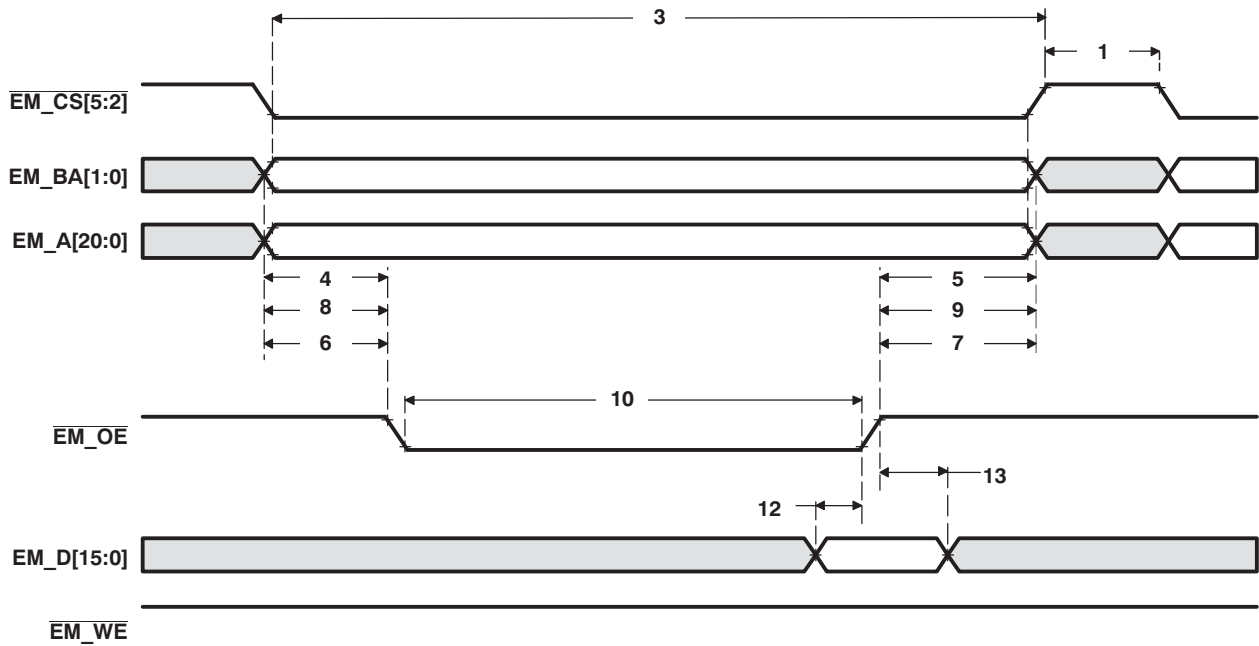
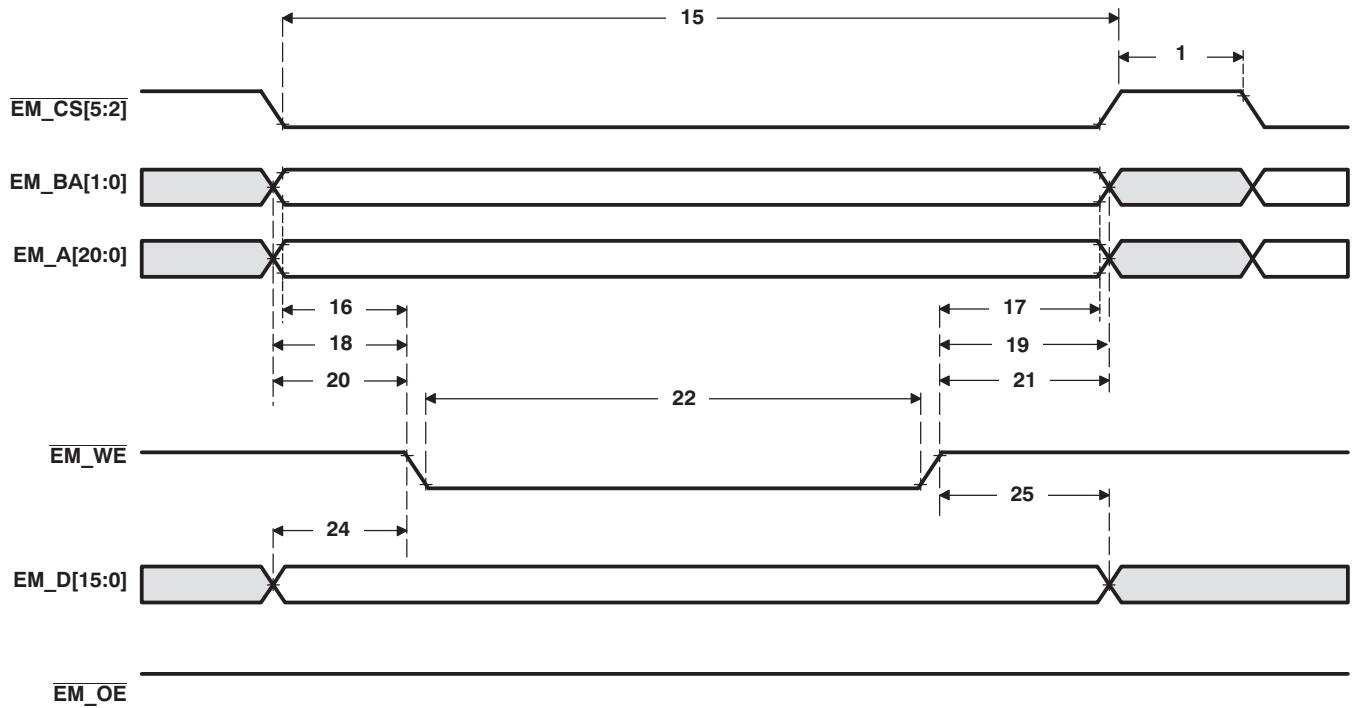
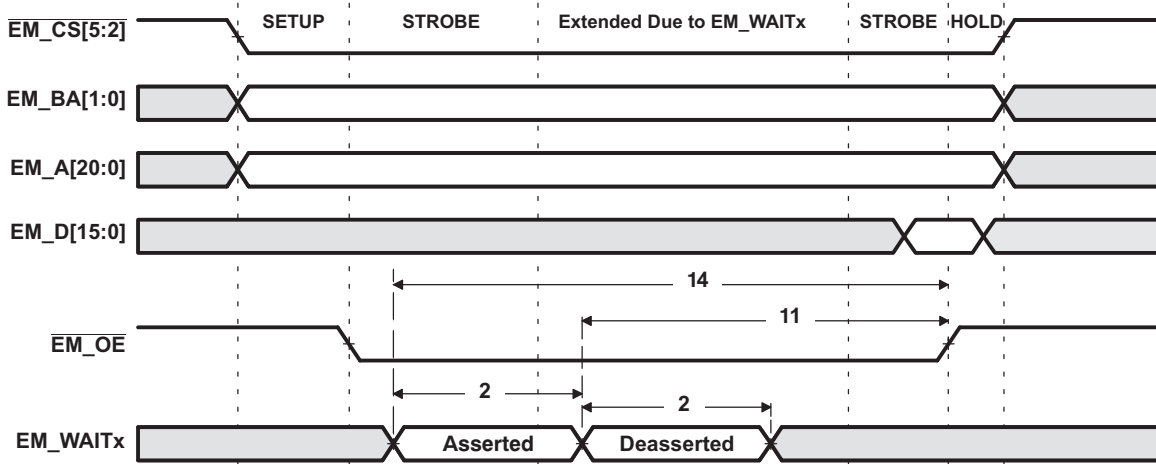
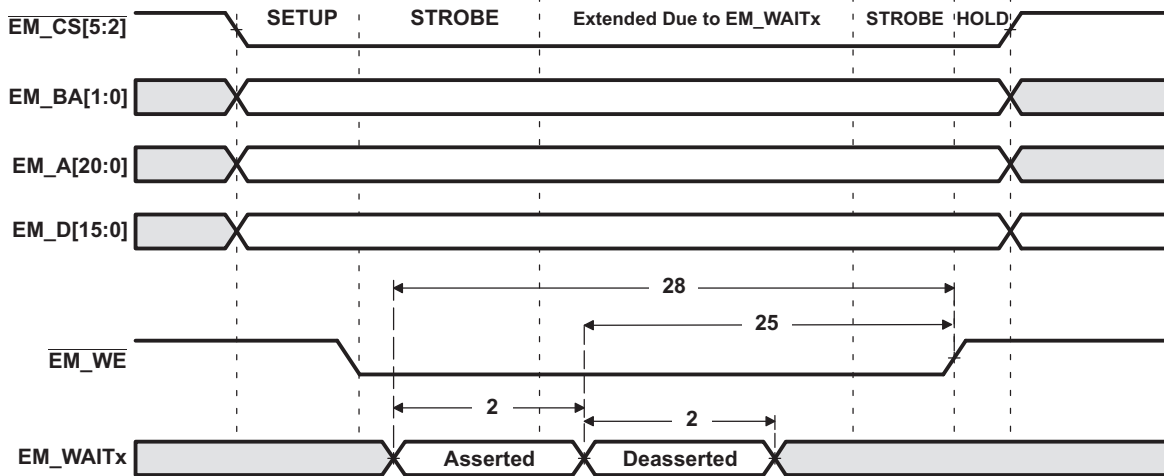

Figure 5-18. Asynchronous Memory Read Timing for EMIF
Figure 5-19. Asynchronous Memory Write Timing for EMIF
Figure 5-20. EM_WAITx Read Timing Requirements
Figure 5-21. EM_WAITx Write Timing Requirements
(1) Timing parameters are obtained with 10pF loading on the EMIF pins.
(2) TA = Turn around, RS = Read setup, RST = Read strobe, RH = Read hold, WS = Write setup, WST = Write strobe, WH = Write hold, MEWC = Maximum external wait cycles. These parameters are programmed via the Asynchronous Configuration and Asynchronous Wait Cycle Configuration Registers.
(3) E = SYSCLK period in ns. For example, when SYSCLK is set to 100/120 MHz, E = 10/8.33 ns, respectively.
(4) EWC = external wait cycles determined by EM_WAITx input signal. EWC supports the following range of values EWC[256-1]. Note that the maximum wait time before timeout is specified by bit field MEWC in the Asynchronous Wait Cycle Configuration Register.
Table 5-15. Switching Characteristics Over Recommended Operating Conditions for EMIF Asynchronous Memory^{(1)(2) (3)} (see Figure 5-19 and Figure 5-21)⁽⁴⁾ (continued)
Table 5-18. Timing Requirements for EMIF Asynchronous Memory⁽¹⁾⁽²⁾ (see Figure 5-18, Figure 5-20, and Figure 5-21)
- (1) Timing parameters are obtained with 10pF loading on the EMIF pins.
- (2) E = SYSCLK period in ns. For example, when SYSCLK is set to 100/120 MHz, E = 10/8.33 ns, respectively.
- (3) Setup before end of STROBE phase (if no extended wait states are inserted) by which EM_WAITx must be asserted to add extended wait states. Figure 5-20 and Figure 5-21 describe EMIF transactions that include extended wait states inserted during the STROBE phase. However, cycles inserted as part of this extended wait period should not be counted; the 4E requirement is to the start of where the HOLD phase would begin if there were no extended wait cycles.
Table 5-19. Switching Characteristics Over Recommended Operating Conditions for EMIF Asynchronous Memory^{(1)(2) (3) (4)} (see Figure 5-18, Figure 5-20, and Figure 5-21)
Table 5-19. Switching Characteristics Over Recommended Operating Conditions for EMIF Asynchronous Memory^{(1)(2) (3) (4)} (see Figure 5-18, Figure 5-20, and Figure 5-21) (continued)